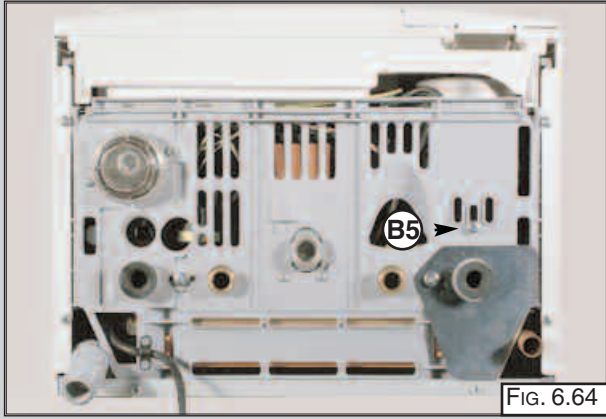

FIG. 6.64
4. Remove the screws "B5" (FIG. 6.64);